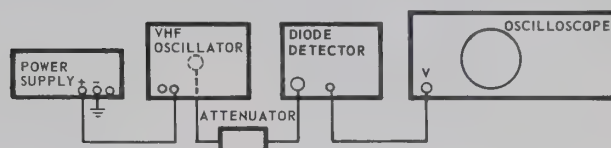

Fig. 5-3. PM Requirements Setup
a. Connect the equipment as shown in Fig. 5-3.
- (1) The dc voltage should be 2.5 volts or less.